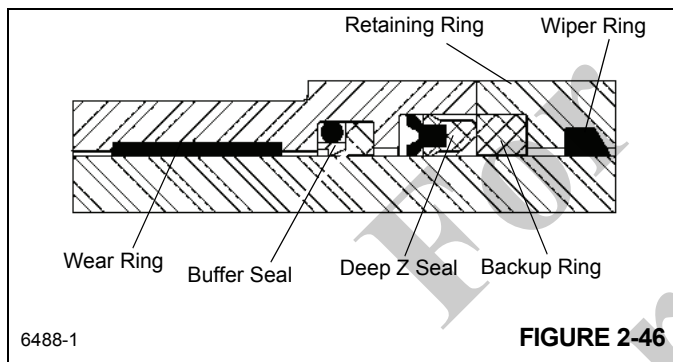

FIGURE 2-46
**NOTE:** When installing seals in step 2 through 4, see Figure 2-46.